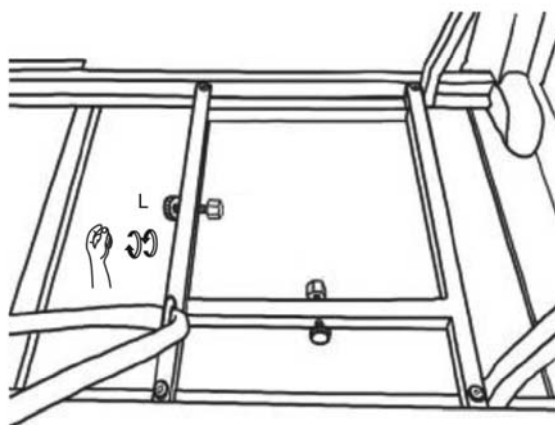

Figure 8
6. Tighten threaded knobs (L) found on tank tray (Figure 8) so that the LP tank cannot move from side to side. Do not remove plastic cap from end of threaded section.